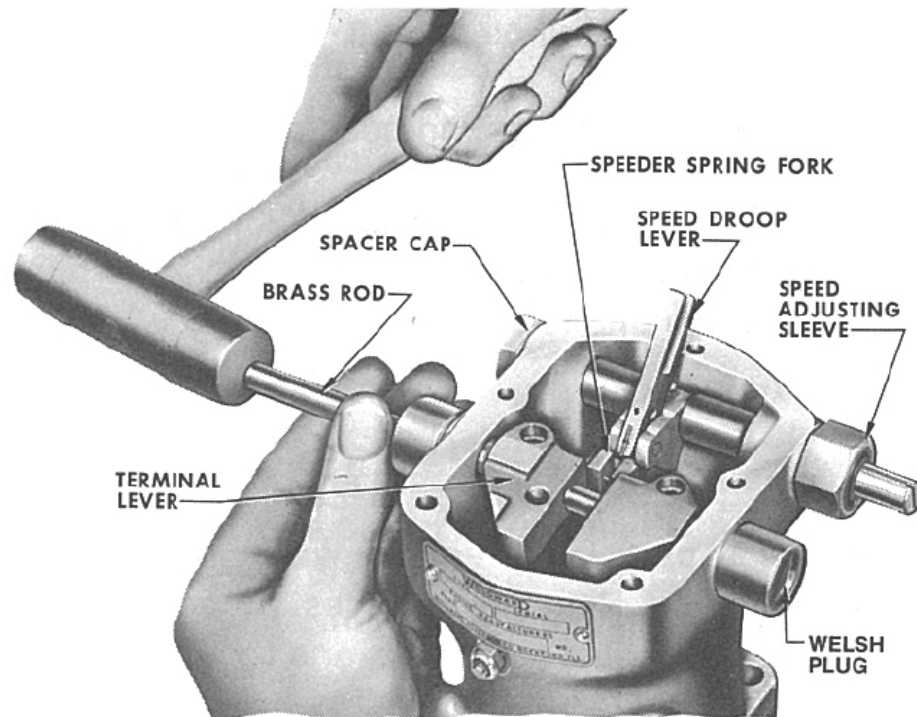

Figure 3-3. Terminal Shaft Removal
2. Remove screws (68) and take off top cover (67).
3. Mark position of speed droop bracket (61), if removed from terminal lever (56), to permit reassembly with bracket in approximately the same position.
4. Remove pin (54) that holds the fork of speeder spring assembly (42) to the floating lever (55). Remove lever (55).
5. Remove two socket head screws (60) in terminal lever (56) and pull out terminal shaft (58). Remove two oil seal rings (47) from terminal shaft sleeve (46).
6. Use a 5/16" diameter brass rod and insert it through terminal sleeve (46) and lever (56). Drive out the opposite stub shaft (57) and Welch plug (65) from the sleeve (45) and lift out terminal lever (56). See Figure 3-3.
7. Unscrew the speed adjusting spacer sleeve (49) and the spacer cap (50) on opposite side of governor case, and remove them from case along with the copper washers (48).